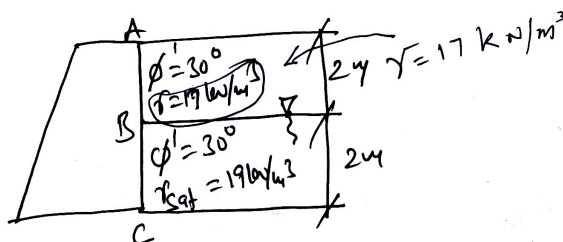

Fig. Q5(c)
- c. Determine the lateral earth pressure at rest per unit length of the wall shown in Fig. Q5(c). Also determine the resultant earth pressure. Take $K_0 = 1 - \sin \phi'$, $r_w = 10\text{kN/m}^3$.